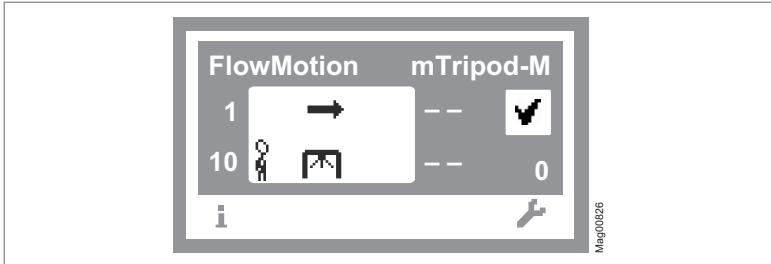

Fig. 11: Example "Operational view"
12. Press the left button «» repeatedly until the operational view is displayed again. ➔ Page 32, Fig. 11.